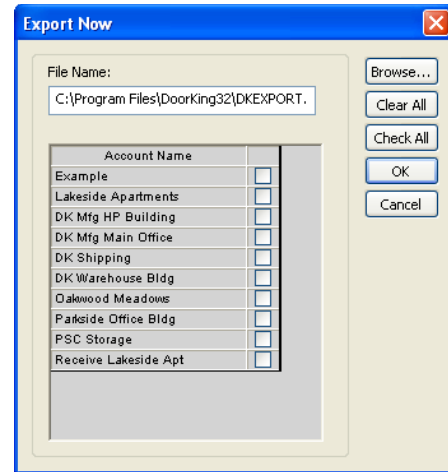

Figure 67
1. From the FILE pull down menu, click EXPORT. The export window will appear (Fig 67).